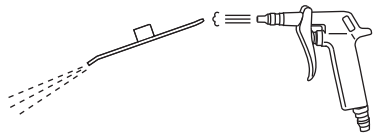

Fig. 27
- 1 Remove moisture inside and on the surface of the product using a dry cloth, air gun, etc (Fig. 27).